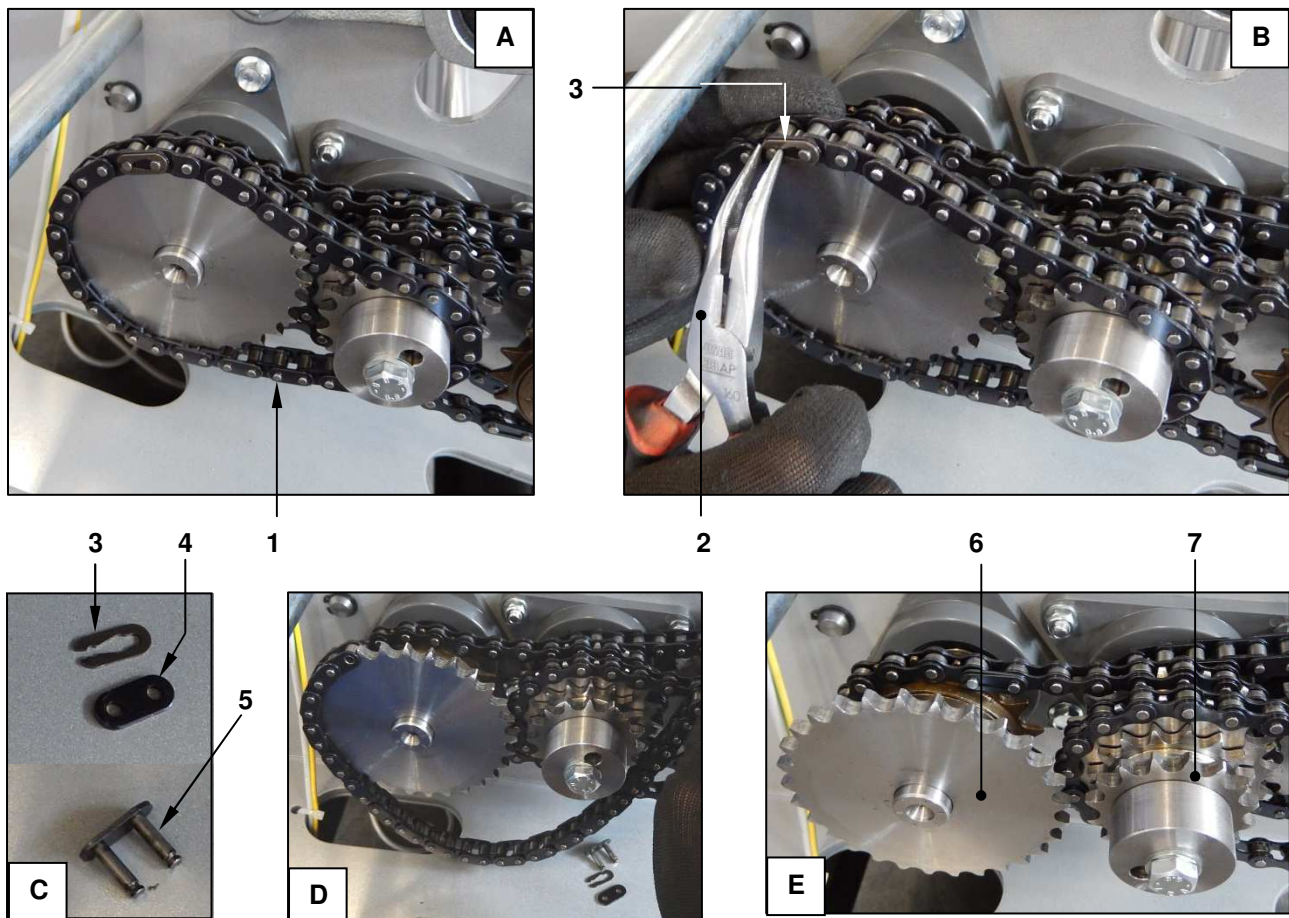

Figure 42 - Replacing a drive chain
With reference to Figure 42, to remove, for example, the chain ref. 1:
2. Using a pair of needle nosed pliers ref. 2, remove the joint ref. 3 (photo B). Then remove the link plate ref. 4 and remove the pair of pins ref. 5 (photo C). The chain ref. 1 can now be removed (photos D - E)
3. Wrap it around the gears (ref. 6 and ref. 7 in the example shown in Figure 42). Then join its ends so that after you have positioned the plate ref. 4, you can insert the pair of pins ref. 5 in the holes of the external link plate (use new plates and pins. The joint ref. 3 should also be new).
4. Lastly, fasten the link with the spring clip ref. 3 using the long-nose pliers ref. 2.